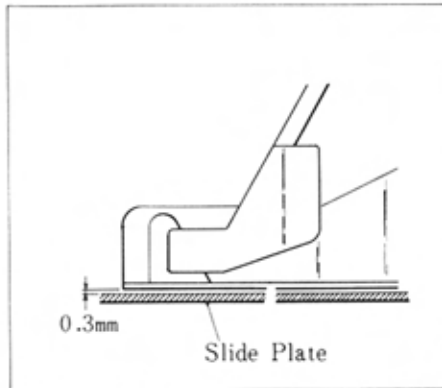

Figure 8
- (d) With the patch guide down (on top of the appropriate thickness of material), the patch guide height is adjusted by the drive cylinder clevis. To adjust the patch guide parallel to the bedplate, loosen the two locking screws in the patch guide cam plate and tilt as required the cam plate. (see Figures 8 and 9)